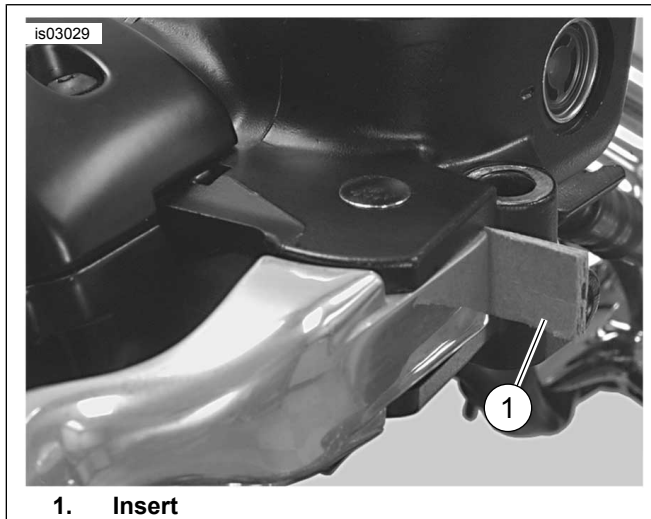

Figure 5. Install 5/32-Inch (4 mm) Thick Insert Before Removing or Installing Master Cylinder Assembly
6. See Figure 5. Squeeze the front brake lever and place a 5/32 inch (4 mm) thick insert between the brake lever and lever bracket. Release the brake lever.
5. See Figure 5. Squeeze the front brake lever and place a 5/32 inch (4 mm) thick insert between the brake lever and lever bracket. Release the brake lever.